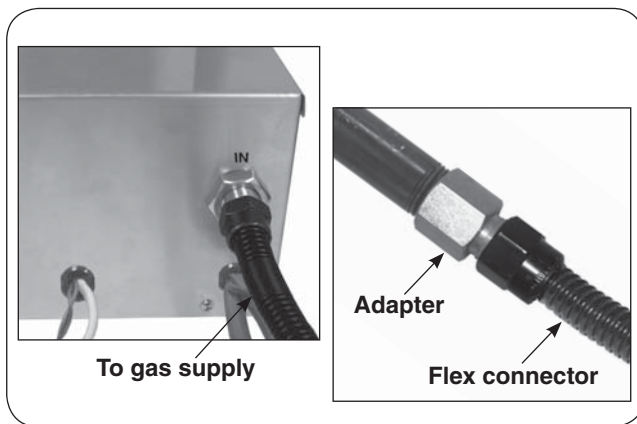

Fig. 8-1
3. Connect a 1/2" flex connector (not included) to the gas supply and the **IN** adapter found on the rear of the valve system. See Fig. 8-1. Be sure all connections are tight.